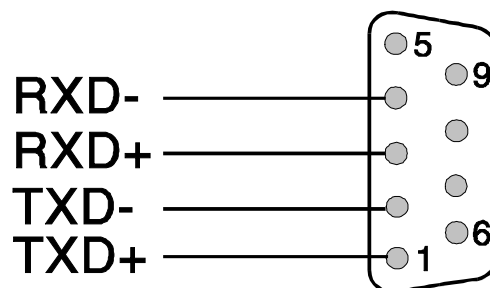

Figure 5. ControlWave RS-485 D-Type Port Assignment
3. Configure the selected ControlWave port for RS-485 operation (see the *HART Master Protocol Manual*, Document # D4068) and connect the selected port to TB1 of the HDI (see *Table 2* for HDI - TB1 designations) (see *Figure 5* for ControlWave D-Type RS-485 designations).
3. Configure the selected ControlWave port for RS-485 operation (see the HART Master Protocol Manual, Document # D4068) and connect the port in question to TB1 of the HDI board (see *Table 2* for HDI - TB1 designations) (see *Figure 5* for ControlWave D-Type RS-485 designations).